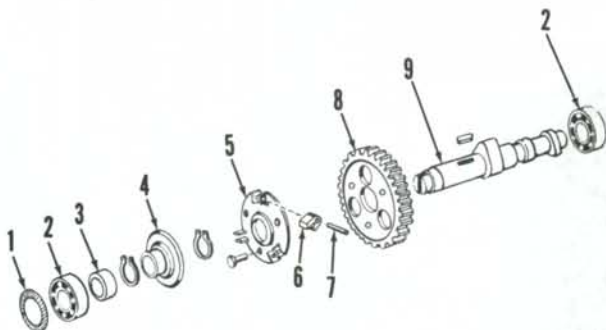

Fig. D1-16—Exploded view of camshaft assembly.
Inspect camshaft (9—Fig. D1-16) and bearings for excessive wear. Cam height for F1L 208 D engine should be 6.85-6.95 mm (0.2697-0.2736 inch) for intake and exhaust. Cam height for F1L 210 D engine should be 6.55-6.65 mm (0.2579-0.2618 inch). Check governor weights (6), plate (5) and disc (4) for wear and damage and renew if necessary.